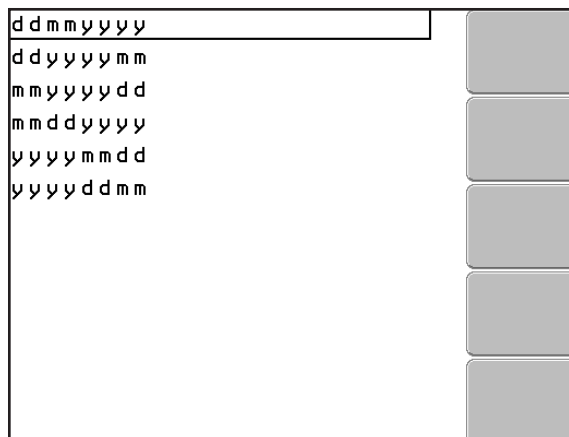

Fig. 70: Example of manual language information settings: Date
-  Date format (ddmmyyyy, ddyymm, mmyyyy, mmddyy, yyymmdd, yyddmm; d = day, m = month, y = year; see Fig. 70)